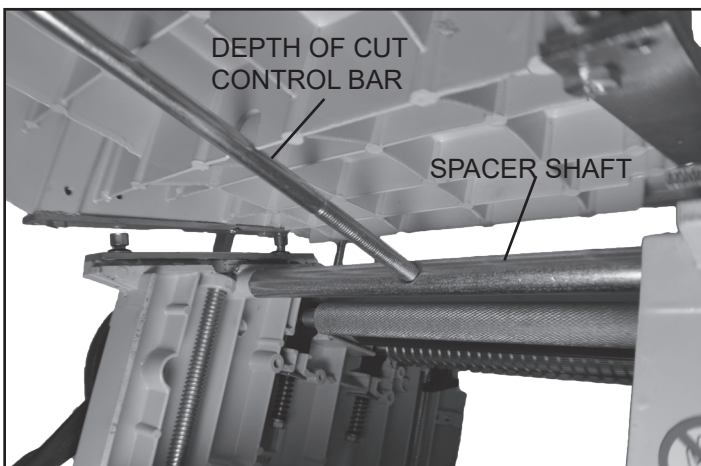

FIG. 8
4. Hold the infeed table up to the machine while threading the depth of cut control bar into the Spacer Shaft (#137). FIG. 8.